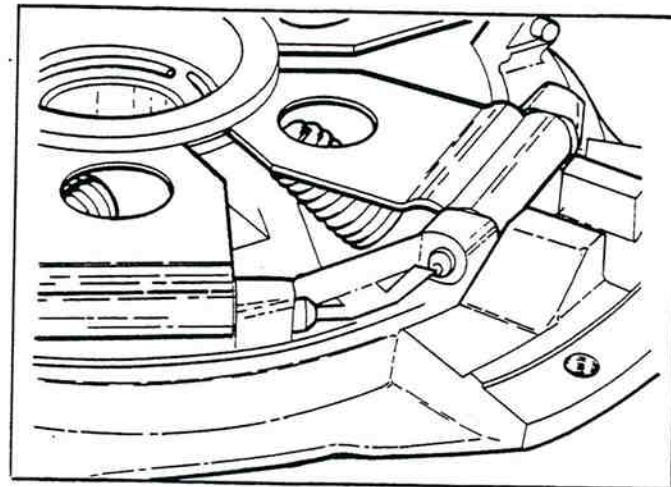

Figure 5-23. Install Retainer Clip.
10. Place retainer clip into position and insert pivot pin through clip hole into adjusting ring and lever holes until pin head snaps into position (figure 5-23).